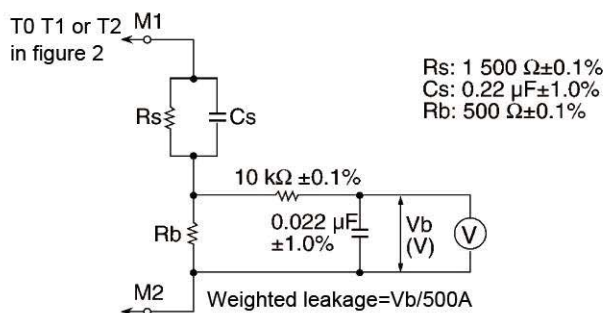

Figure 1
1. Be ready to measure circuit in figure 1 below .